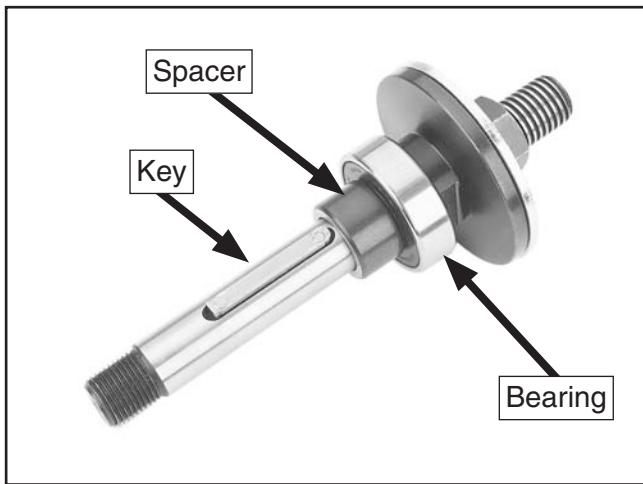

Figure 141. Components re-installed on arbor.
- 21.** Re-install the larger front spacer and key onto the arbor. The arbor should look like the one shown in **Figure 141**.